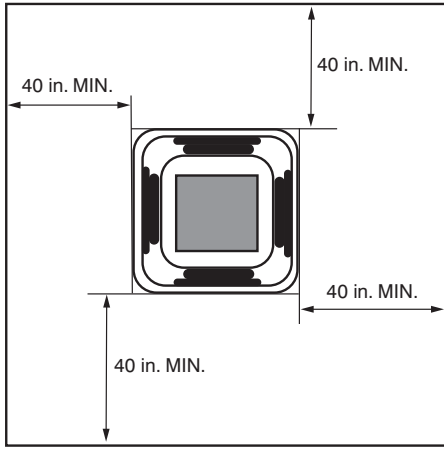

Fig. 3 — Distance from Wall or Obstruction
- The unit should be at least 3 1/4 ft from a wall or similar obstruction. See Fig. 3 below.